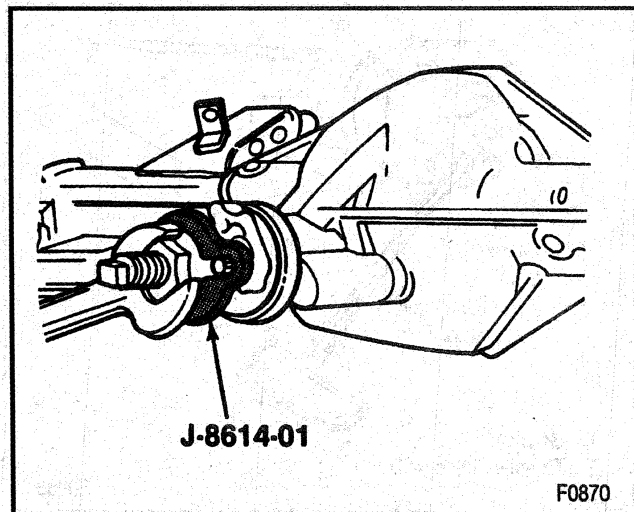

Figure 20—Installing the Pinion Flange
2. Pinion flange using J 8614-01 (Figure 20).